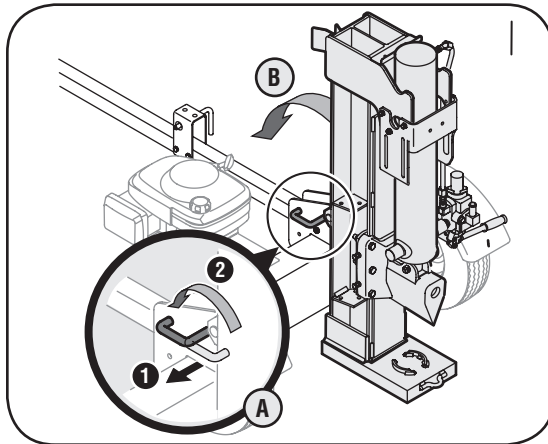

Figure 3-3
1. Pull out the vertical beam lock (A), rotate it back, and pivot the beam to the horizontal position until it locks (B). See Figure 3-3.